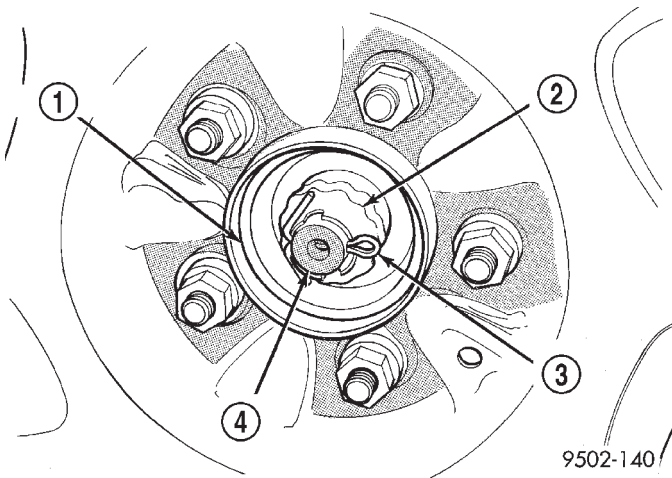

Fig. 2 Hub And Bearing To Stub Axle Retaining Nut
(1) Raise vehicle on jack stands or centered on a frame contact type hoist. Refer to Hoisting in the Lubrication And Maintenance section of this manual for the required lifting procedure to be used for this vehicle.
(2) Remove the cotter pin and nut lock (Fig. 2) from the end of the stub axle.